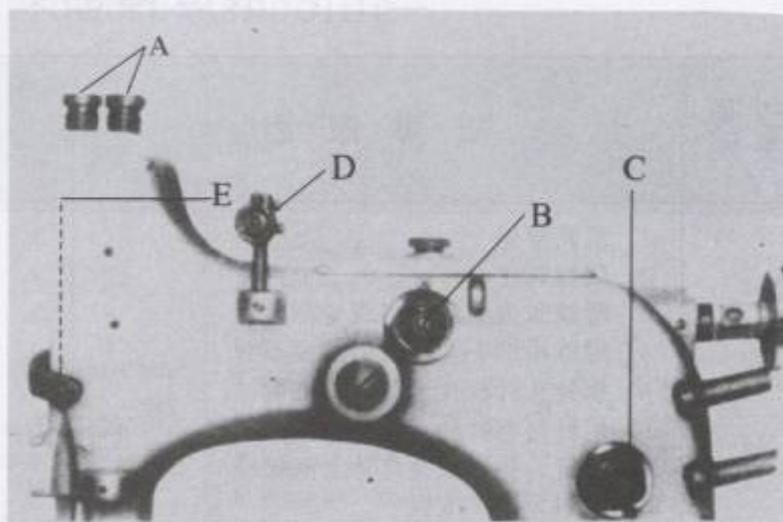

图10 Fig.10
压脚压力的大小, 取决于缝料的厚度, 缝薄料时减少压力; 反之, 则增大压力。当缝料推送顺畅, 针迹均匀时切勿再增大压力, 以减缓机件磨损。调节压力时旋进两只调压螺套(图10, A)可增大压力, 旋出则减少压力。
缝线张力由夹线器(图10, B、C)调节, 通常面线(B)张力要比底线(C)的张力大。旋进夹线器螺母(B、C)使张力增大, 旋出则减少。
Thread tension is adjusted by thread tension assembly (B, C, Fig. 10). Tension of upper thread (B) is generally stronger than that of lower thread (C). Turn thread tensioner nut (B, C) in to increase the tension, turn it out to decrease the tension. If the stitch is still not good, should adjust the height of thread adjusting bar (D). The height of the thread adjusting bar (D) is at the same level with the thread eye of the needle bar connection at its highest position.